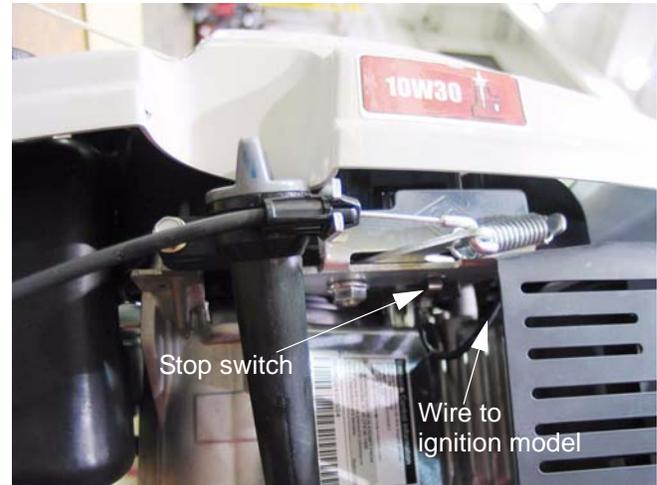

Figure 4.2
- 2a. locate the terminal that connects the stop switch wire to the primary windings of the ignition module. See Figure 4.2.